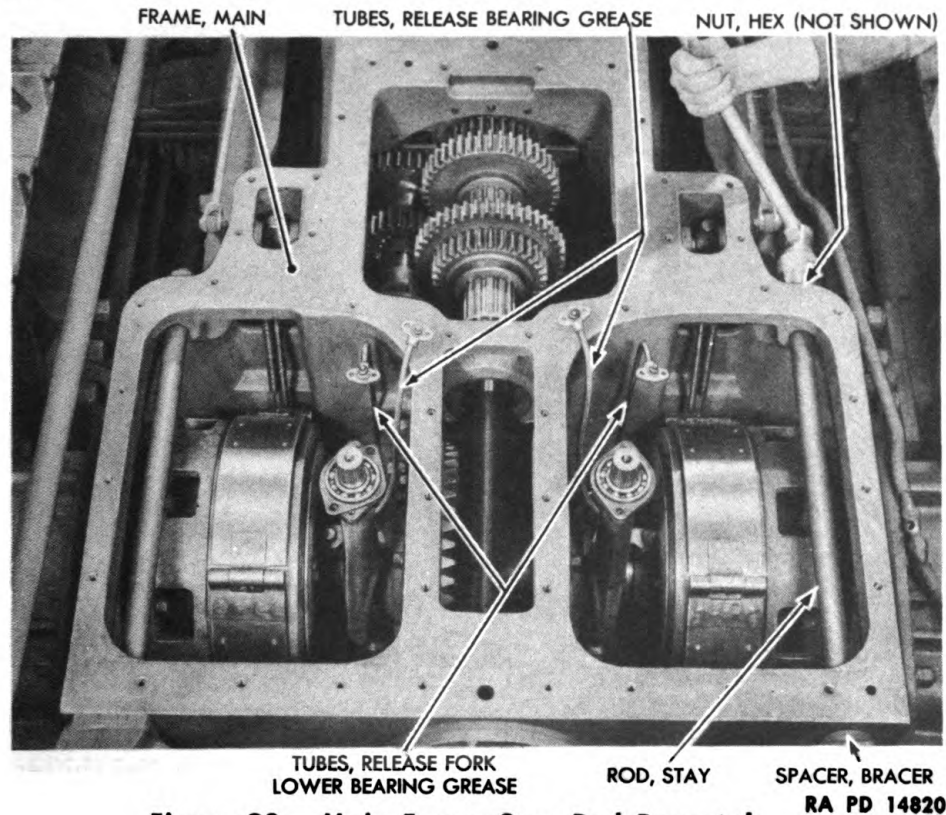

Figure 93 – Main Frame Stay Rod Removal
(9) REMOVE STAY RODS FROM MAIN FRAME (fig. 93).
(10) REMOVE GREASE TUBES (fig. 93).